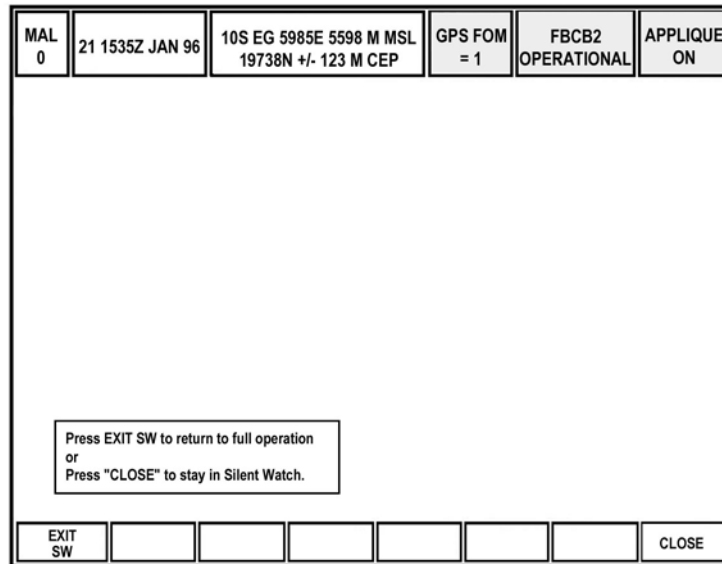

Figure 19. Exit SW warning message.
- (6) Observe the silent watch screen.
- (7) Press EXIT SW softkey again to return to full operations and the main menu or press CLOSE to remain in the silent watch mode (Figure 19).